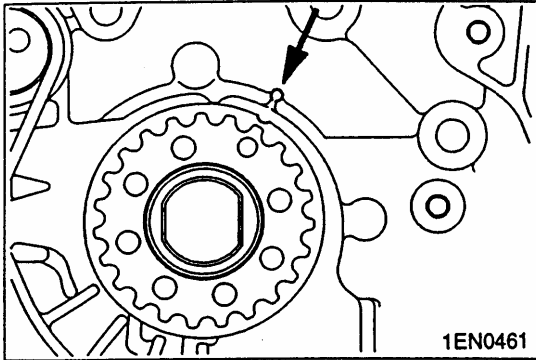

Fig.4-15
- b Align the crankshaft timing mark with the timing mark on the front case, see Fig.4-15.
- c Keeping the tension side of the timing belt tight, fit the timing belt onto the crankshaft sprocket, camshaft sprocket, and tensioner pulley in that order, see Fig.4-15.